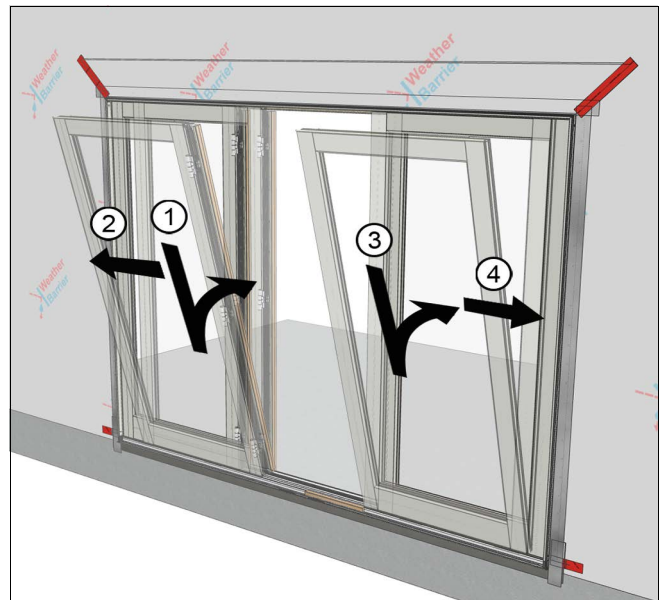

Figure 27
2. Stationary panel is installed first by tipping panel in over the sill retainer and then sliding over and engaging the panel bracket into the sill retainer and jamb retainers. See Figure 27. It's recommend to install one stationary panel at a time following steps 3-5 and then repeating for the other panel.